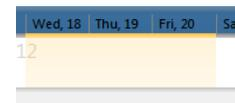
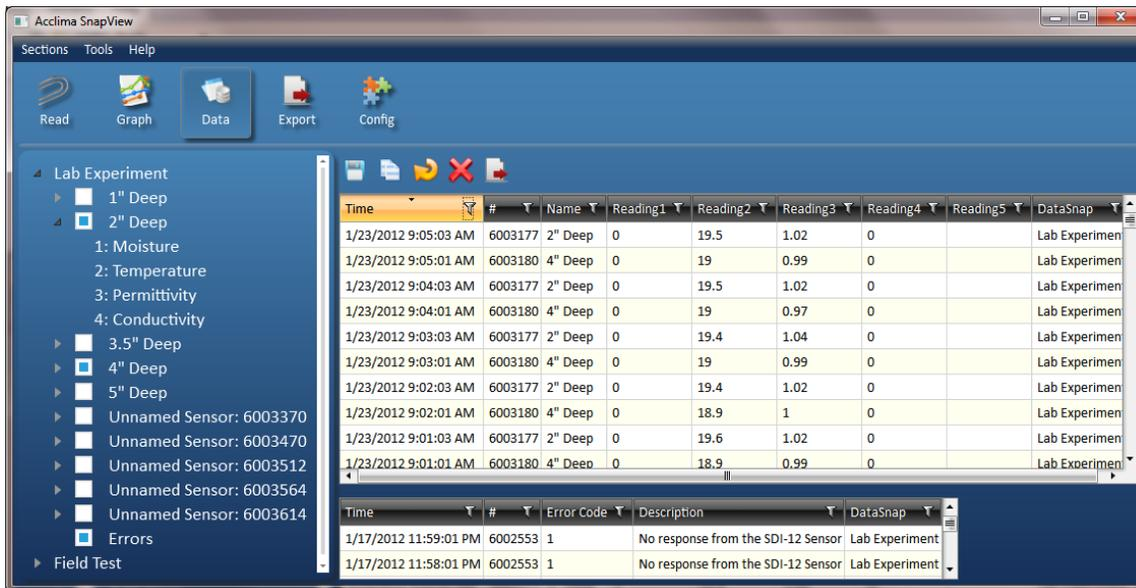

Figure 20 - Selecting Multiple Days in the Time Bar
Figure 23 – Data in Grid View
- Click the 'Read' button to read each selected sensor. The sensor's name, serial number, reading time and measurement data is displayed. If a configured sensor is not attached to the DataSnap, an error is displayed. Notice in figure 20, the sensor named '2\" Deep' had an error.
To select a single day, click on the date in the blue region at the top of the time bar **Thu, 12** **Fri, 13**. As an example, figure 23 shows that Thursday January 19, 2012 has been selected. To select multiple full days, left click on a date and while holding down the left mouse button, drag to another date and release the button. The selection range will be highlighted in yellow as the mouse is dragged. The selection window will now change to the range that was selected. As an example, Figure 20 shows how the time bar would look while clicking 'Wed, 18' and dragging to 'Fri, 20'. Once the mouse is released, the range selection window will move and the main graph will display data for the three selected days.
In figure 23, two sensors have been selected. Those sensors are named '2" Deep' and '4" Deep'. Their data is displayed in the grid to the right, sorted chronologically. The '2" Deep' sensor has been expanded to show the names of its readings. The errors have also been selected and are displayed.